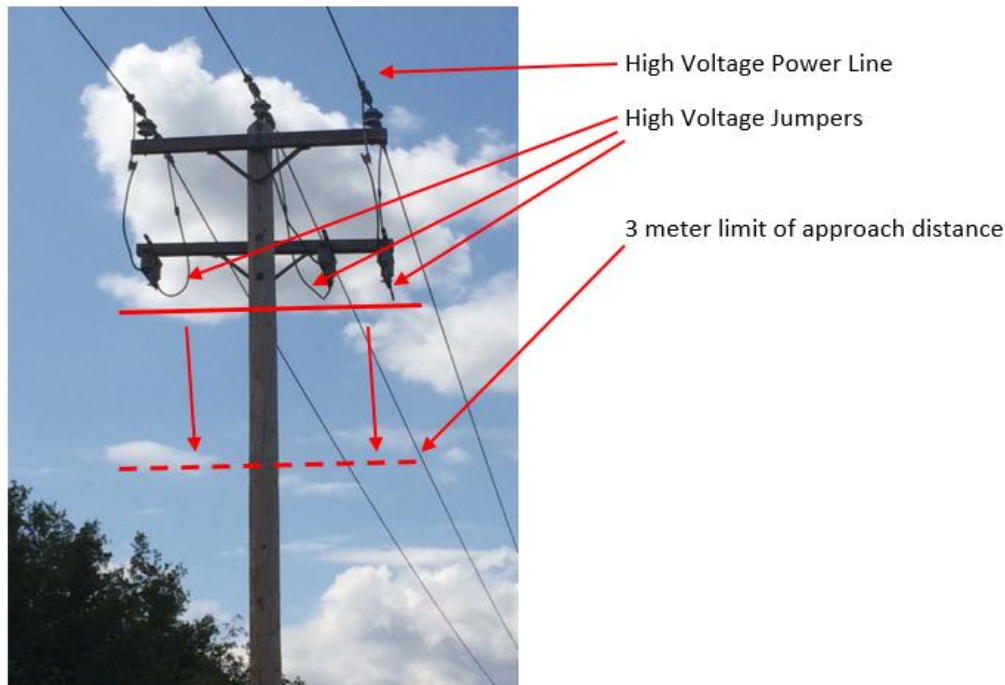

Figure 14 - Three Phase Power Line with Switch Arm
- 7.3.7. Figure 14 is a three phase structure with a switch arm. There are high voltage jumpers attached to the switches that are also connected to the high voltage conductors above. The switches and the jumpers are therefore energized at the same high voltage as the powerline. The switches underneath the crossarm and would be considered the lowest point on the structure where the high voltage could be contacted.